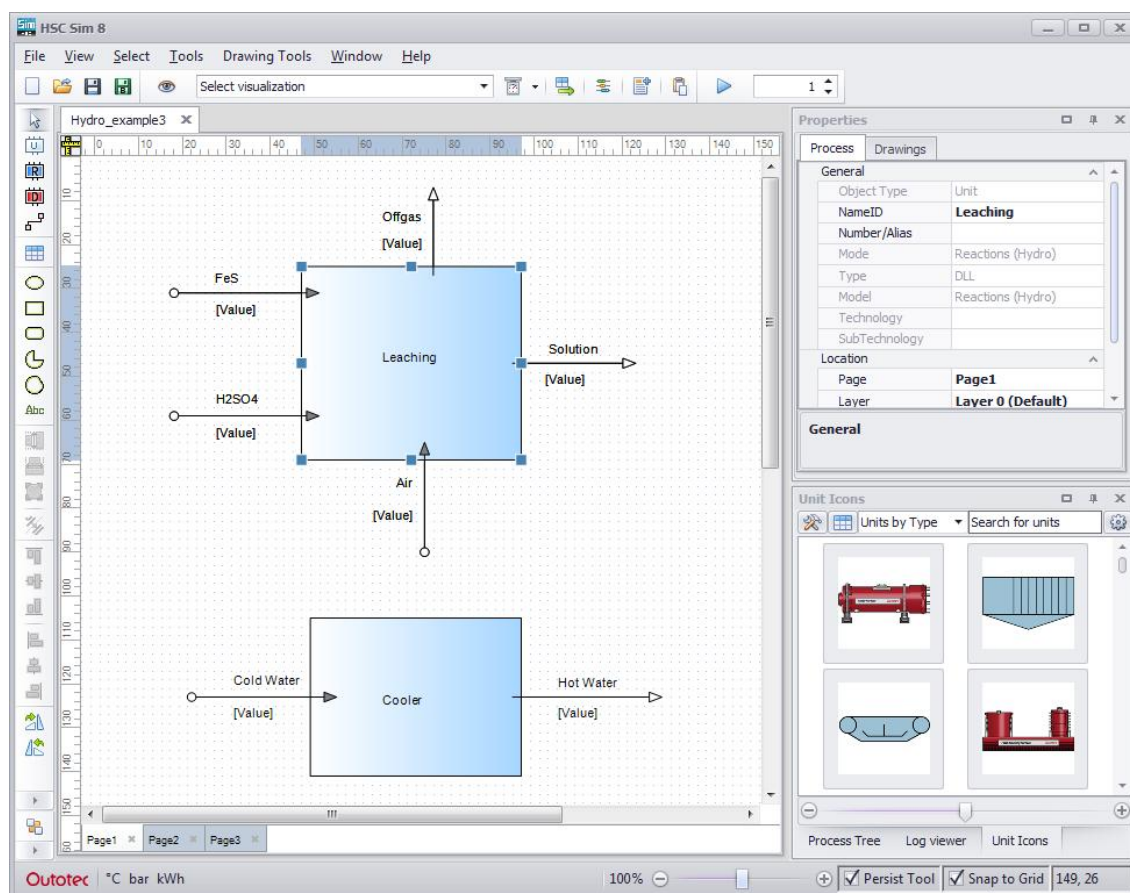

Fig. 1. Sim Reactions Example flowsheet.
- Name the units and streams, see **Fig. 1** and Chapter 40 (section 40.1.3.).